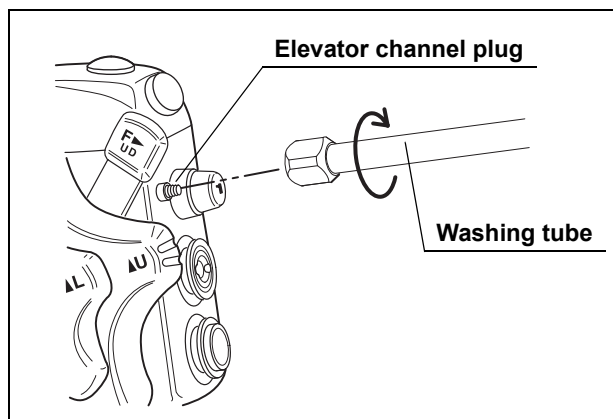

Figure 7.38
1. Connect the washing tube to the elevator channel plug (see Figure 7.38).
4. Connect the washing tube to the elevator channel plug (see Figure 7.38).